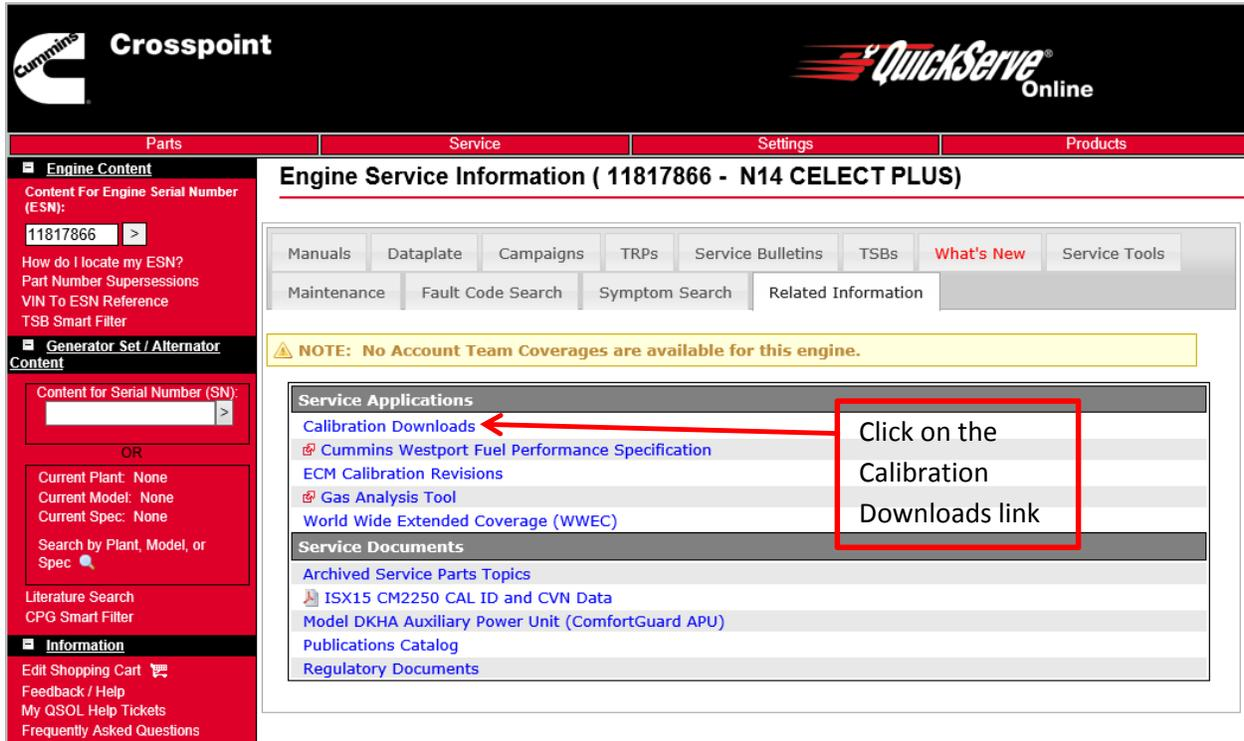

Figure 5
- Click on the Calibration Downloads link (Figure 5).